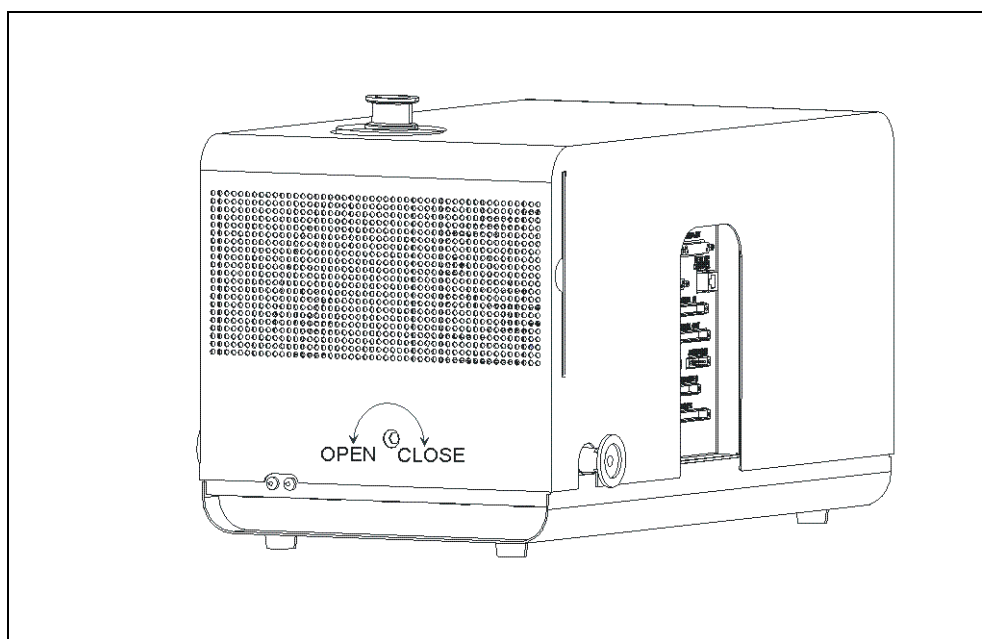

Fig. 7-2 Opening the device cover
- 3** Use the Allen wrench AF 8 mm to open the (ROTO-LOCK) fasteners on either side of the unit cover. See Fig. 7-2 for more information.